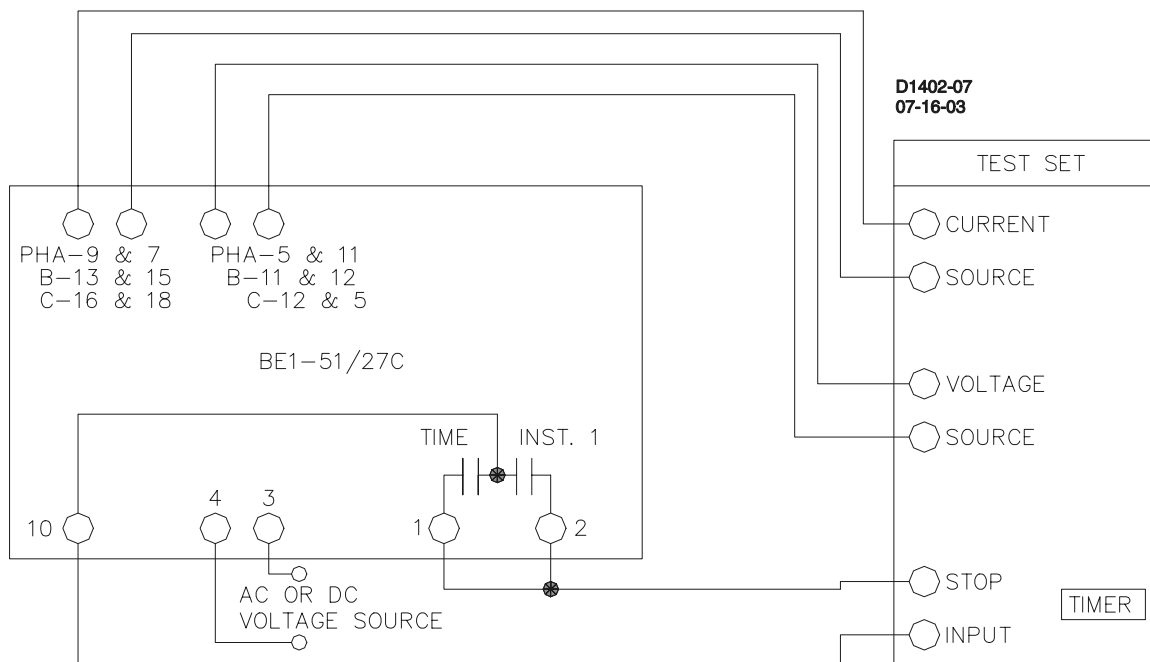

Figure 5-4. Test Setup for Sensing Input Type A (Three-Phase, Delta Configuration)
- (d) Sensing Input Type A (Three-Phase Sensing). Refer to Figure 5-4. Ensure that the timed Output Terminals 1 and 10 are connected. Also, verify that either A, B or C Current Sense Terminals are connected initially (N terminals will be connected later in the test). Ensure that the voltage sense terminals and the current sense terminals are connected to the same phase.
- (c) Sensing Input Type A and P (Three-Phase Sensing). Remove the power and reconnect the input sensing to each of the remaining phases as shown in Figures 5-4 and 5-6, each time repeating Steps 1 through 10.